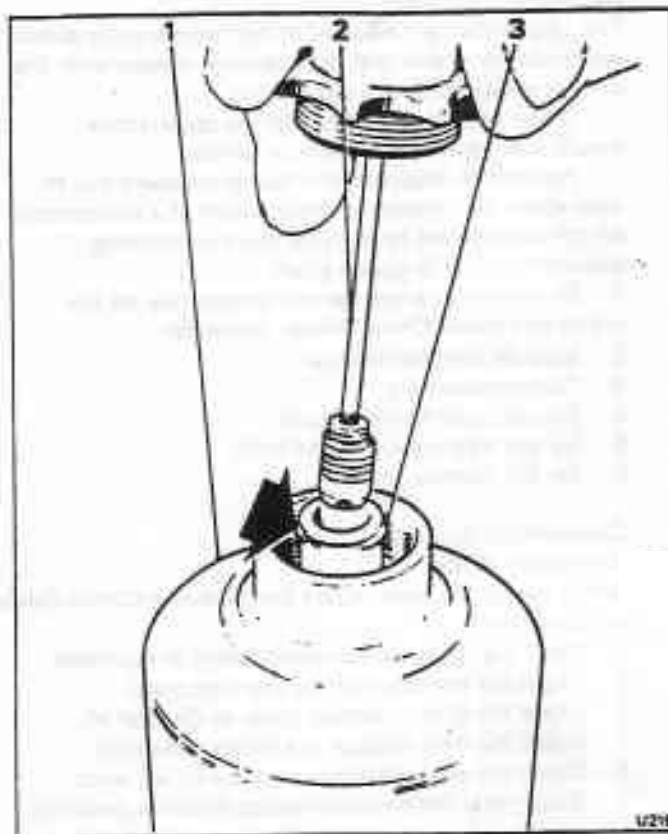

Fig. K5-9 Carburettor damper assembly
Before assembly ensure that the circlip is correctly installed on the piston rod (see fig. K5-9).
11. Remove the dial gauges and fit the carburettor dampers. Ensure that the circlip is correctly fitted onto the piston rod of each carburettor (see fig. K5-9).